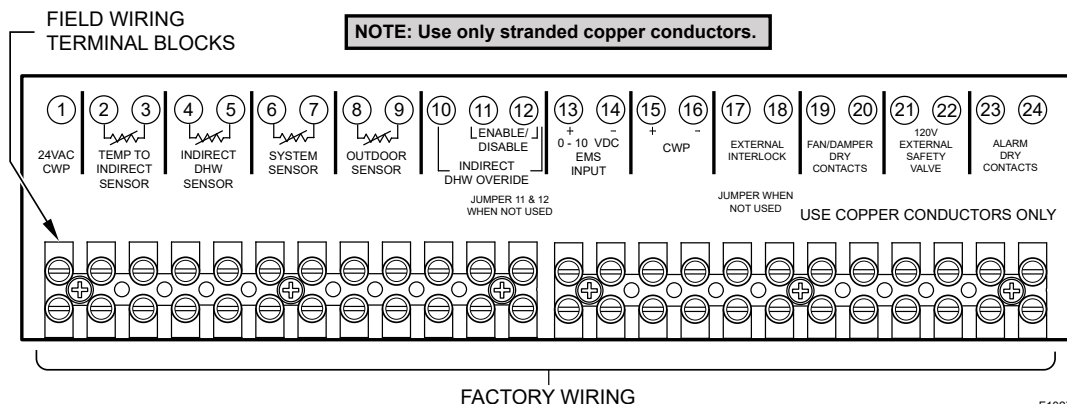

Figure 31. Low-Voltage Field Wiring
2. To enable this remote control function, set DIP switch 5 to the UP position on the PIM. DIP switch 5 Toggles between an EMS (UP) signal or a demand signal from the VERSA (DOWN). DIP switch 2 on the PIM toggles between a Direct Drive (UP) input and a Target Temperature (DOWN) setpoint.
4. Connect an Energy Management system or other auxiliary control signal to the terminals marked 0-10V (+/-) on the field wiring terminals. See **Figure 31**. Caution should be used to ensure that the +0-10V connection does not create a short to ground.
Connect the Enable/Disable (terminals 11, 12) wiring to the field wiring terminals as shown in **Figure 31** and in place of the factory-installed jumper. Alternately, any dry contact closure (including a remote thermostat) across these terminals will enable the heater to run.
1. When using a System Sensor (S3), connect the sensor wires to the terminals marked (6, 7) SYSTEM SENSOR. See **Figure 31**.
1. If using an Outdoor Sensor, connect the sensor wires to the terminals (8 and 9) marked OUTDOOR SENSOR. See **Figure 31**.
Connect the indirect tank sensor to the terminals (4 and 5) marked INDIRECT DHW SENSOR. See **Figure 31**. Caution should be used to ensure neither of these terminals becomes connected to ground. When using an indirect DHW Sensor to control tank temperature, contact closure is required across the indirect override connections for proper operation.
2. Connect the system supply sensor to terminals 6 and 7 on the field wiring strip located on the Master heater. See **Figure 31**.
3. Connect the Outdoor sensor (if used) to terminals 8 and 9 on the field wiring strip located on the Master heater. See **Figure 31**.
4. Connect the Enable/Disable wiring to terminals 11 and 12 on the field wiring strip located on the Master heater. This connection must be provided through dry contacts closure. See **Figure 31**. Applying 24VAC to these terminals will result in blowing the fuse on PIM.
The alarm contacts are 3A rated dry contacts on a normally-open relay that close during fault or lockout conditions, and the maximum voltage across the contacts is 30 VAC or 30 VDC. See the Field Wiring as shown in **Figure 31**.